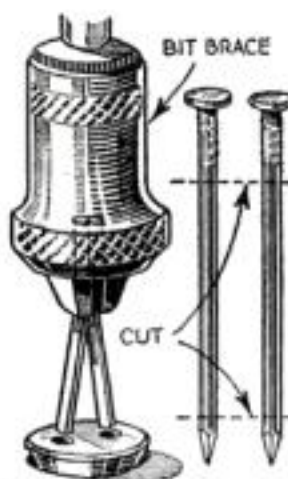

Fig. 4. Two nails aid in grinding valves
**W**HERE valve heads are provided with holes instead of a screwdriver slot, the method shown in Fig. 4 can be utilized while grinding them. Two nails are inserted in the chuck of a hand brace,
Take some of the material you are to use for stuffing and make several rolls of it. These should be rolled quite tightly and when finished would be of a diameter slightly larger than a pencil. Lay these rolls along the edges of the rails and turn the projecting edges of the burlap back over them (Fig. 4). Push the roll out to the edge of the rail and holding it in place under the burlap, drive in tacks all along the edge. Take care not to let this rolled edge project beyond the face of the rails, as this will spoil the appearance of the covering when it is put on. This edging will protect the final covering from wearing through.
Corner blocks made as indicated and having their outer edges rounded a little next are nailed in place in the corners with a few small nails. (A, Fig. 4.) These blocks should fit snugly against the two inner faces of the legs. They form a place into which tacks may be driven when making the turn around the legs.